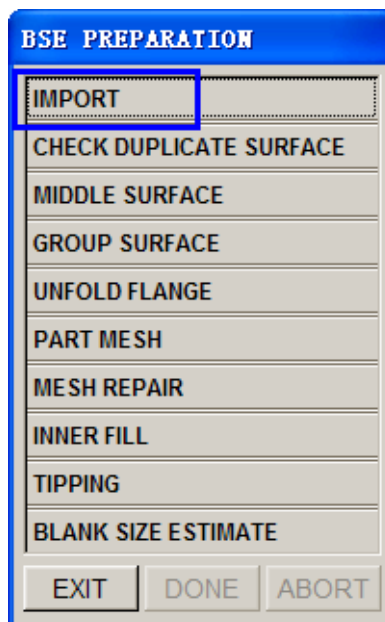
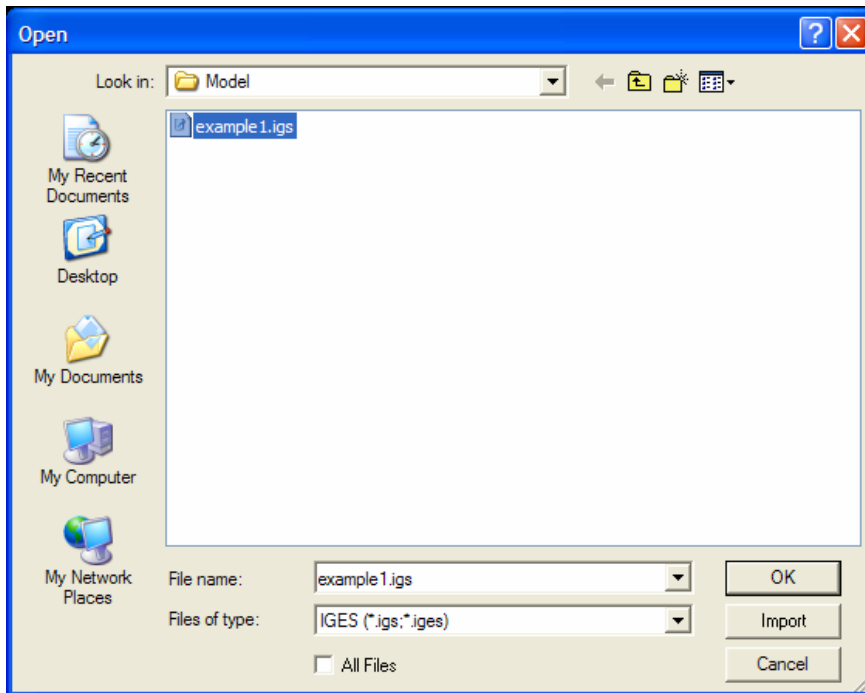

Figure 2.1: BSE preparation dialog box
Figure 2.2: Import file window
1. Click **BSE→Preparation** from the **Menu bar** to display the **BSE Preparation** dialog box shown in Figure 2.1. Select the **IMPORT** function. The **Import file** window illustrated in Figure 2.2 is displayed.